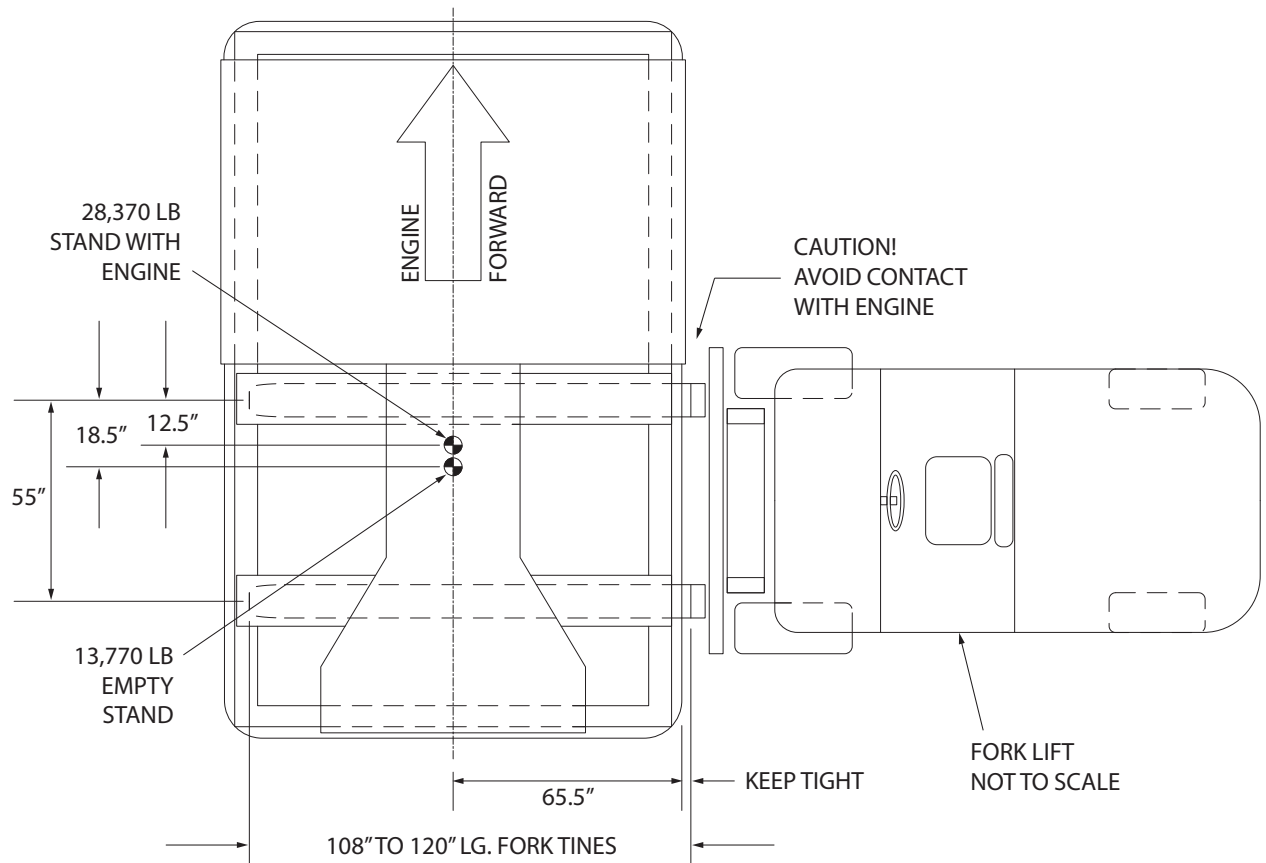

Figure 5.4-1
5.4.1 Fork Lifting (Figure 5.4-1)
- **Engage fork tines as far as possible. (See Figure 5.4-1).**
Stand can only be fork lifted on the right hand side of stand. A sling (AGSE-L018/11C4484P01 or AGSE-L038-G03/11C4484P03) with spreader beam can also be used and must be attached to the four (4) designated hoist points on the base. Approximate weight of stand and engine is 28,400 Lbs. CG is behind FWD cradle roll frame. (See Figures 5.4-1, 5.4-2).